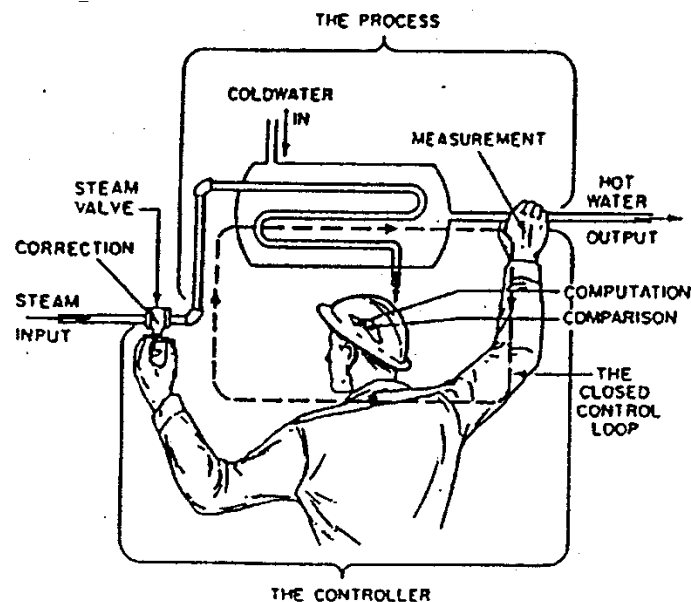

Figure 3: A water heating system operated by a human
Now, let's take a look at the system shown in Figure 3. The operator is trying to maintain constant temperature of the hot water exiting a heat exchanger. He measures the hot water temperature using his right hand and then decides to add more or less steam to the heat exchanger by adjusting the valve at their left hand. In this example, the operator acts as the controller in a closed-loop or feedback control manner. They use the hot water temperature, "feedback", to decide the steam valve setting.
- 6.1 Referring to Figure 3, what will be the most appropriate type of steam valve for the system (fail-open or fail-closed)? And identify the following items.
- 6.2 Draw a block diagram representing the water heating system in Figure 3 (Use your answers in 6.1 to complete your diagram). Reminder: follow the general layout from Chapter 1. This is a generic block diagram that could be drawn in Word or PowerPoint (not a Simulink model).